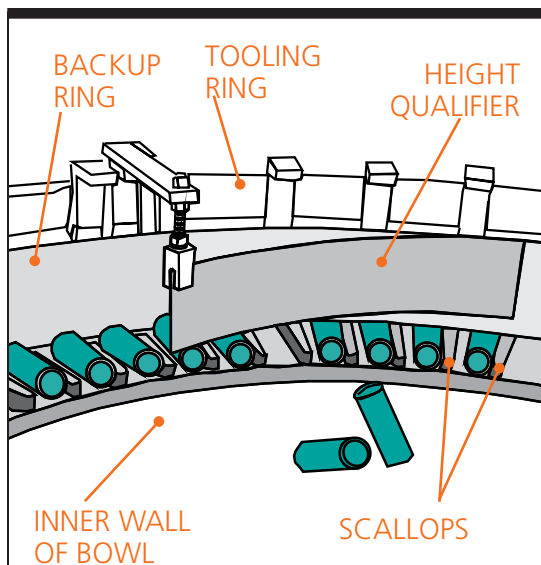

Figure 1-2. Qualifying Parts in Scallops
Step 2—The FS-60-RD Feeder Loads and Qualifies Your Parts. After dropping onto the rigid disc, parts load quickly onto the scalloped rim of a rotating bowl. The parts singulate between scallop fingers which help orient the parts (see Figure 1-2).